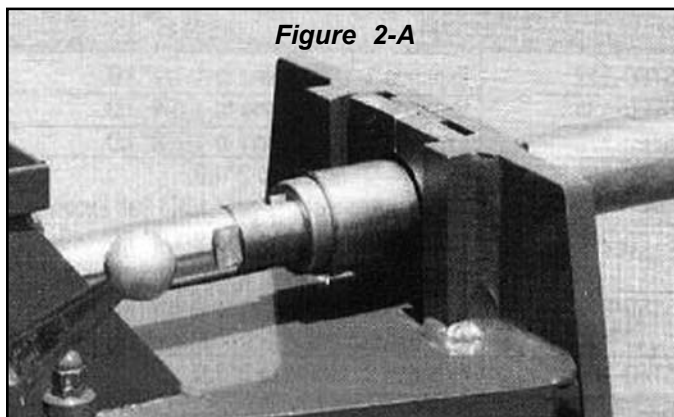

Figure 2-A
6. Slowly, while depressing the valve handle down, move the shaft forward until the expander die enters the tubing. Be sure that the tool is centered with the tubing. Continue moving the cylinder forward until the expansion is formed. (See figure 2-A)